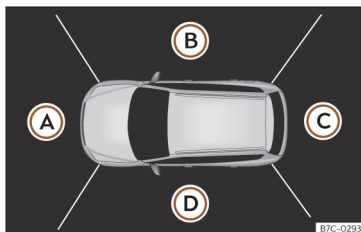

Fig. 186 Viewing the top view system: aerial view.
Function buttons **Fig. 186**:
The aerial view is generated by combining the images from all the cameras **📷** **>>> Fig. 186**. The aerial view can be selected by pressing the **vehicle** in the area.
Select the corresponding view by pressing the different areas **>>> Fig. 186 (A) to (D)** of the aerial view or the reduced aerial view.
The infotainment system screen displays the aerial view >>> **Fig. 186**. If you press the  button when driving at over 15 km/h (9 mph), the image will not be displayed.